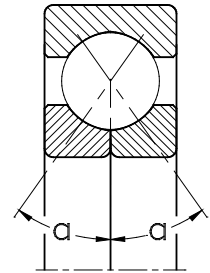

Fig. 2.5
**Four-point contact ball bearings** (fig. 2.5) are basically single row angular contact ball bearings with split inner ring (i.e. two half inners). This bearing is separable.